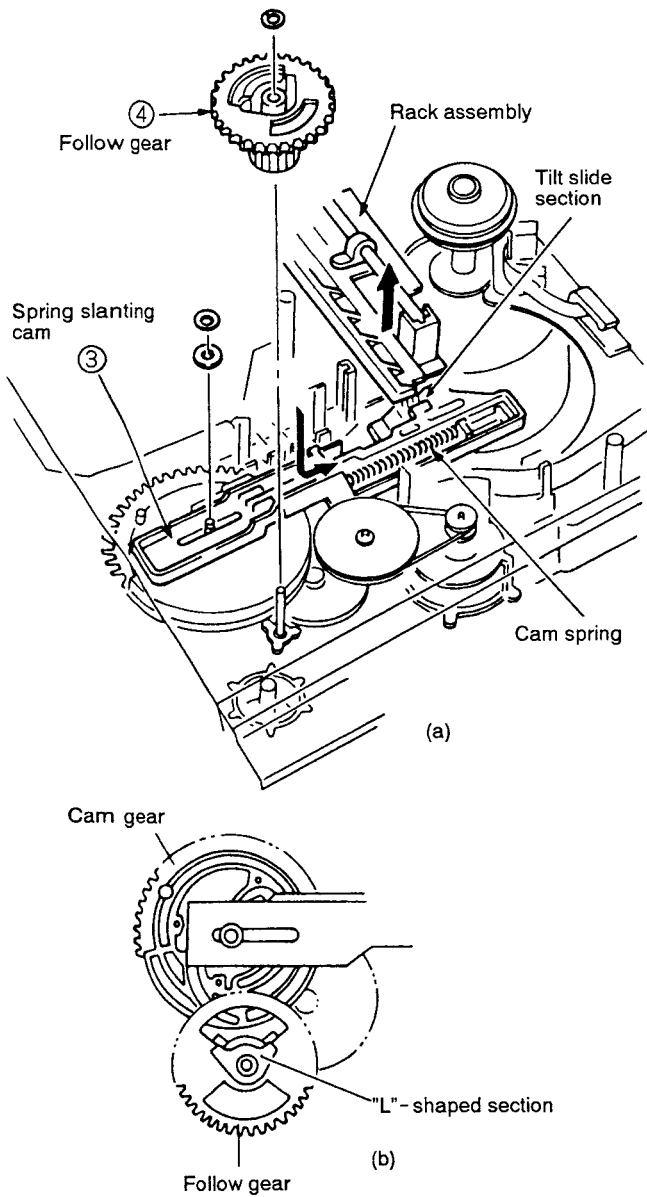

Fig. 7-13
- ③ Mount the spring slanting cam by raising the rack assembly in the direction of the arrow so that the tilt slide section comes under the rack assembly. Then, mount the cam spring. (Fig. 7-13 (a))
- ④ Insert the follow gear so that the "L"-shaped section of the follow gear comes to the end of the cam gear, as shown in Fig. 7-13 (b).